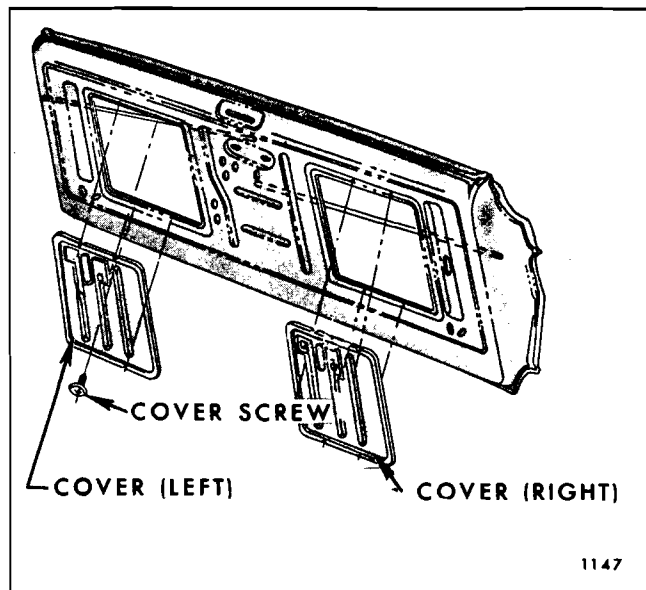

Fig. 9-37—Tail Gate Inner Panel Access Hole Cover
2. Remove screws securing right and left access hole covers to tail gate inner panel and remove covers (See Fig. 9-37).